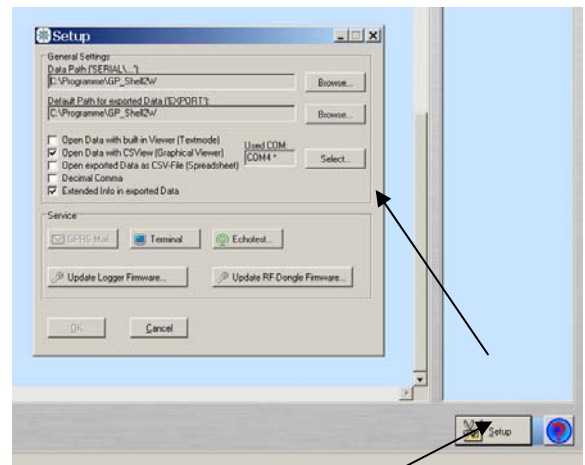

Fig. 1
5) Start the software and follow the instructions in *08-4_GPShell_Help file.pdf* on how to connect to your loggers. In most cases, you get an error message first: the software does not find the respective COM-port where the dongle was connected to. Click “Setup” and change the COM-port setting until the correct port is found (Fig. 1).